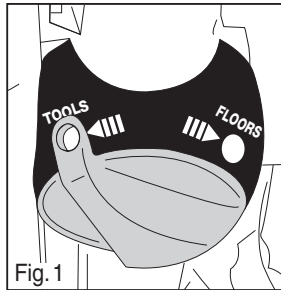

Fig. 1
- Turn air path selector knob to 'tools' (Fig. 1).